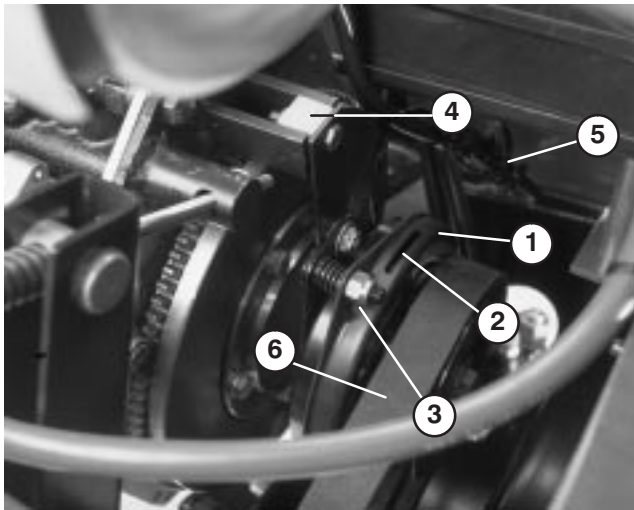

Figure 37
4. Rotate PTO pulley toward the engine and remove the belt (Fig. 37).
2. Remove bolt, washer and nut securing nylon block and remove nylon block (Fig. 37).
3. Unplug clutch electric connector (Fig. 37).
4. Adjust the air gap so that a .015 inch feeler gauge slides in between the clutch lining and friction plate with light pressure (Fig. 37). The gap can be decreased by turning the adjusting nut clockwise (Fig. 37).